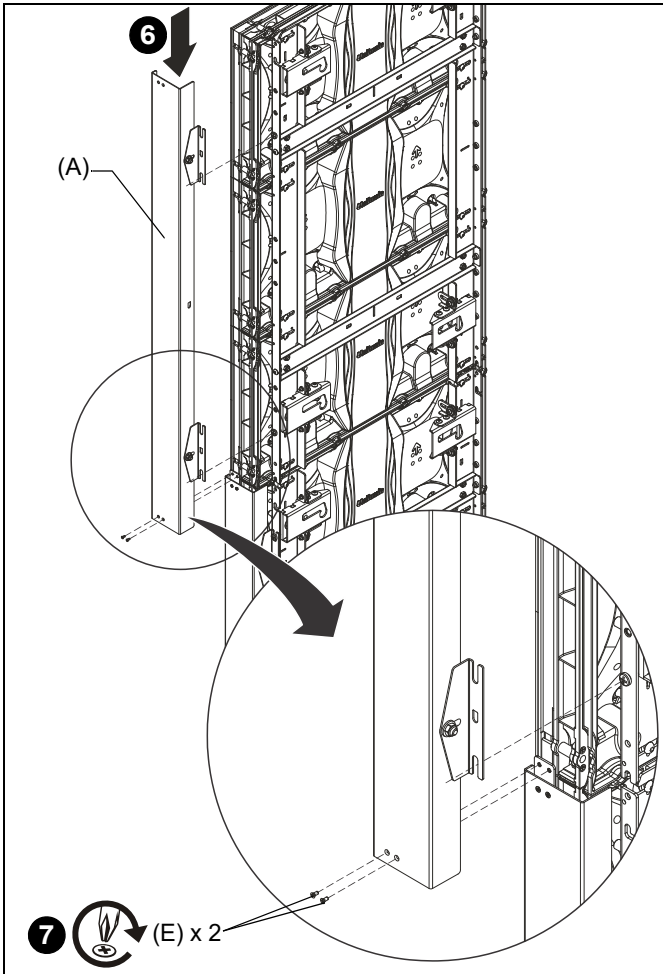

Figure 5
6. Slide the top side cover (A) down into place onto the lower side cover, by hanging the brackets onto the Phillips screws installed in Step 2. (See Figure 5)
7. Install two 4-40 x 1/4" Phillips flat head screws (E) into the top of the backing plate (B) installed in the lower side cover (A). (See Figure 5)